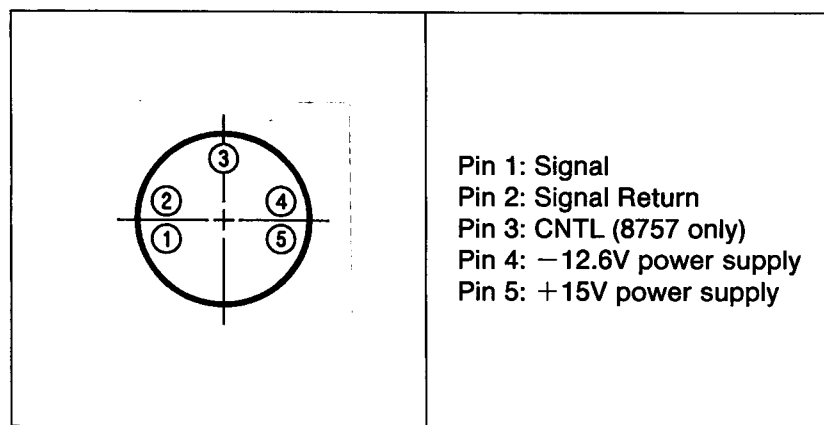

Figure 7-1. Identification of Analyzer Input Pins
1. To determine whether the HP 11613B is being provided with power by the HP 8756A/57A analyzer, use a DVM to measure the  $-12.6\text{V}$  and  $+15\text{V}$  power supplies at pins 4 and 5 of one of the network analyzer's front panel input connectors. These pins are identified in Figure 7-1. To insure that the supplies are good under load, connect a  $348\Omega$  resistor from pin 4 to chassis ground and measure the voltage across the resistor with a DVM. Repeat the procedure for pin 5. If pin 4 reads  $-11 \pm 0.5\text{V}$  and pin 5 reads  $+13 \pm 0.5\text{V}$  under load, continue with the next step. The voltage levels on the HP 8755A/B/C will be slightly different.
Connect the oscilloscope probe to an HP 8757A front panel input, pin 3 (see Figure 7-1).